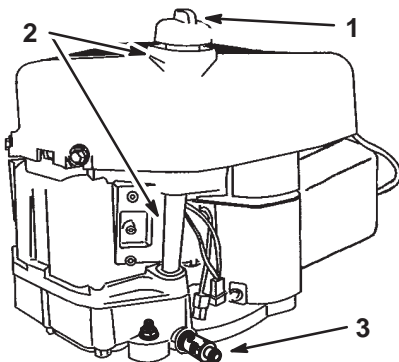

Figure 18
2. Clean around the oil dipstick (Fig. 18) so that dirt cannot fall into the fill hole and damage the engine.
10. Clean around the oil dipstick and unscrew the cap (Fig. 18).
11. Slowly pour approximately 80% of the specified oil into the filler tube (Fig. 18). Refer to Servicing the Engine Oil, page 20.